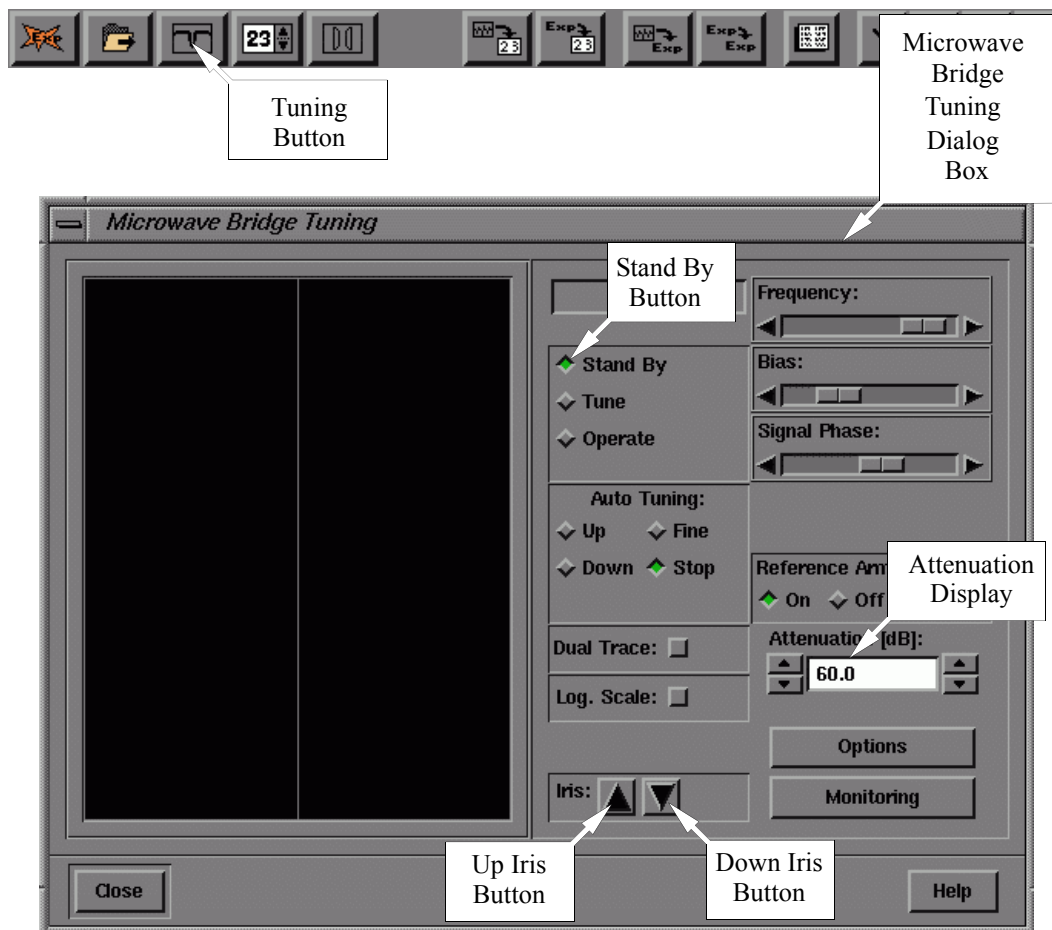

Figure 5-16 The Microwave Bridge Tuning dialog box.
6. **Open the Microwave Bridge Tuning dialog box.** If this window is not already open, click its button in the monitoring panel. The button toggles the dialog box open and closed. The Microwave Bridge Tuning dialog box will then appear. (See Figure 5-16.)
7. **Switch the microwave bridge to Stand By mode.** (See Figure 5-16.) Click the Stand By button in the dialog box to change to the Stand By mode.
2. **Reconnect the iris motor shaft to the iris screw.** The procedure here is like Step 5. performed in reverse. Reposition the iris screw motor. Screw the lock nut on the iris screw. Click and hold the up iris button in the Microwave Bridge Tuning dialog box (See Figure 5-16.) until the iris screw is approximately 0.5 to 1 cm. above the top surface of the cavity body.